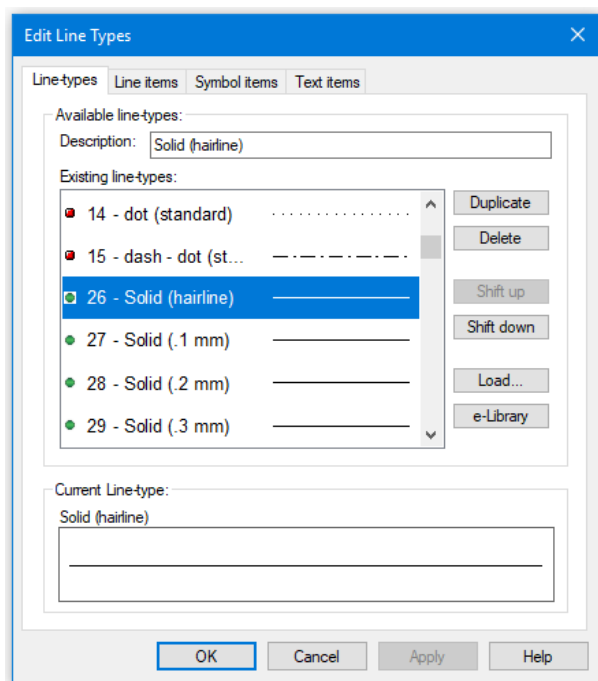

Figure 11-10: Edit Line Types Dialogue Box
3. Press the *Line-types...* button in the Tables group to open the *Edit Line Types* dialogue box (Figure 11-10).